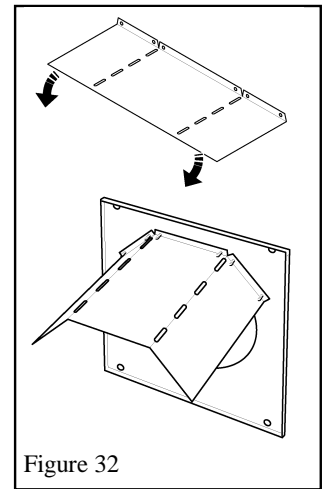

Figure 32
1. Bend the wall shields and screw to the inside of the wall plates with 6 thread cutting screws per plate. See figure 32.